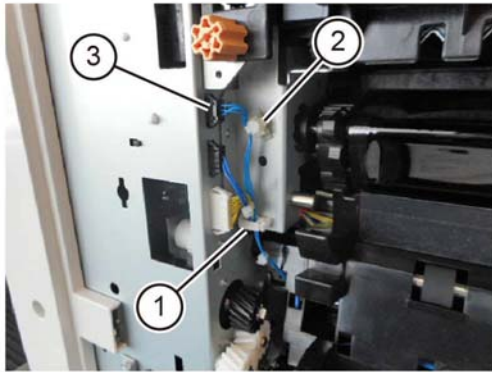

Figure 2 Connector removal
4. Disconnect the connector, Figure 2.
- a. Release the clamp (1) and remove the wire harness.
- b. Remove the cable band (2).
- c. Disconnect the connector (3).